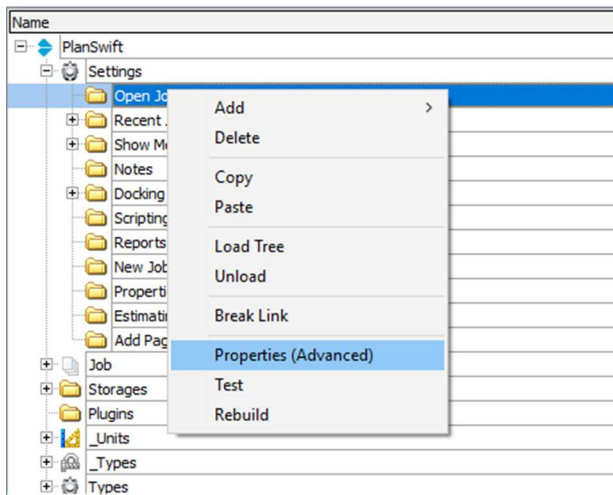

Figure 3
3. Select **Properties (Advanced)** from the drop-down menu in Figure 3.